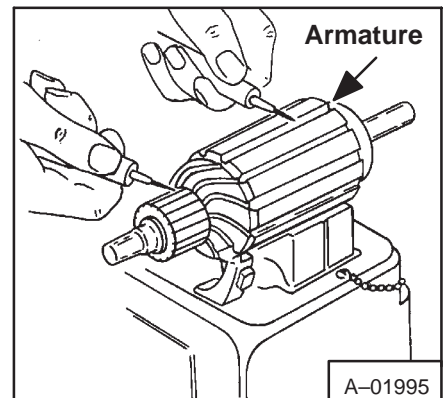

Fig. 6-14 Armature Testing (Grounds)
3. Check the armature by connecting a test light from the outside of the armature to the commutator (Fig. 6-14). If the light comes on, the defect is in the armature.